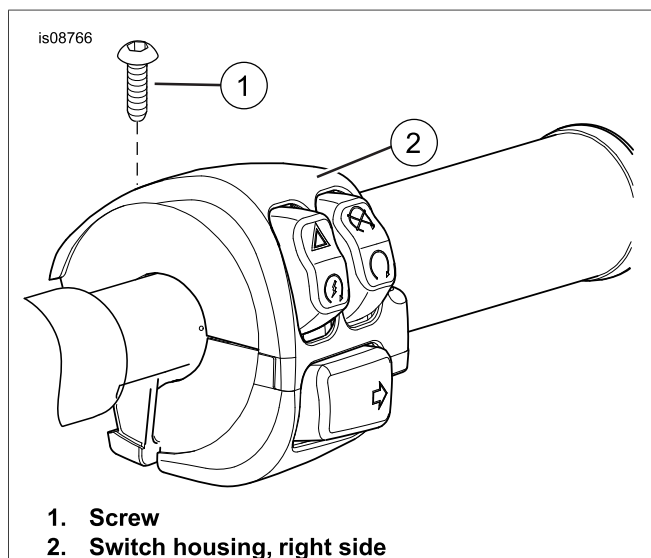

Figure 2. Screw and Switch Housing
3. See Figure 2. Remove screw (1) from right side switch housing (2). **2014 and later Road King models:** Retain screw for later use. **All other models:** Discard screw.